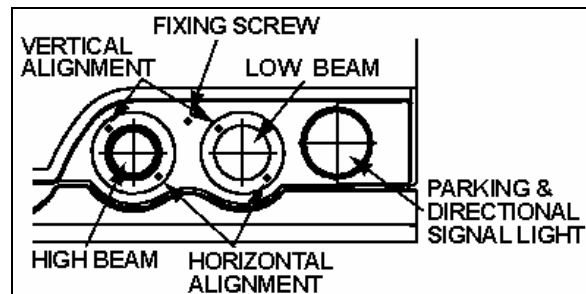

FIGURE 29: HEADLIGHT ASSEMBLY 06546
Headlight aim should be checked after installing a new bulb. Aiming can be performed without opening headlight assembly. Horizontal and vertical aiming of each module is provided by two adjusting screws that pivot the module in the housing for proper alignment (fig. 29). There is no adjustment for focus since the module is set for proper focus during manufacturing assembly.
- Remove the headlight screw fixing the headlight assembly, then tilt headlight assembly down (Fig. 29 and 30).
2. Remove the headlight screw fixing the headlight assembly, then tilt headlight assembly down (Fig. 29 and 30).